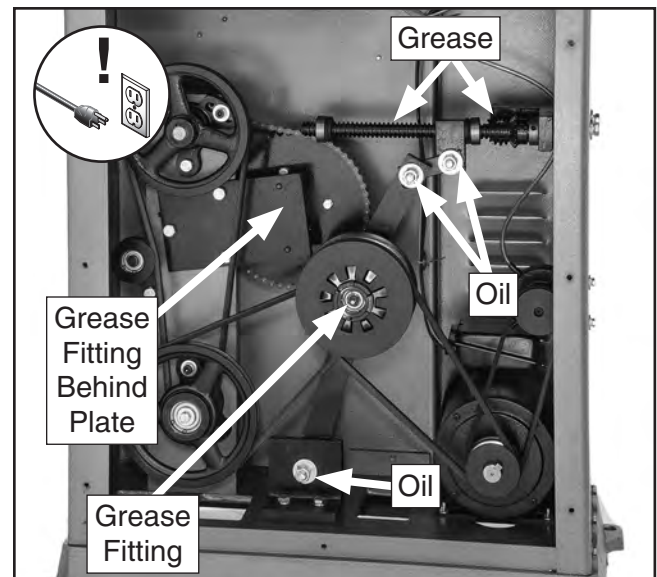

Figure 56. Drive system lubrication points.
1. Remove the lower rear access panel, and use shop rags and mineral spirits to clean away any grease or grime from the grease fittings (see **Figure 56**). This will ensure the new grease is not contaminated.
3. Lubricate the hinge points (see **Figure 56**) with oil.